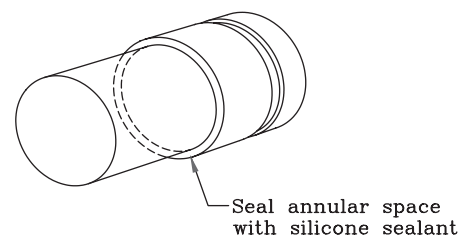

Figure 6B – Double Wall Draft Hood Connector
7. Seal all vent pipe joints and seams to prevent leakage. Use General Electric RTV-108, Dow-Corning RTV-732, or equivalent silicone sealant with a temperature rating of 500 deg. F, or 3M #425 aluminum foil tape (or equivalent). See Figure 6B.